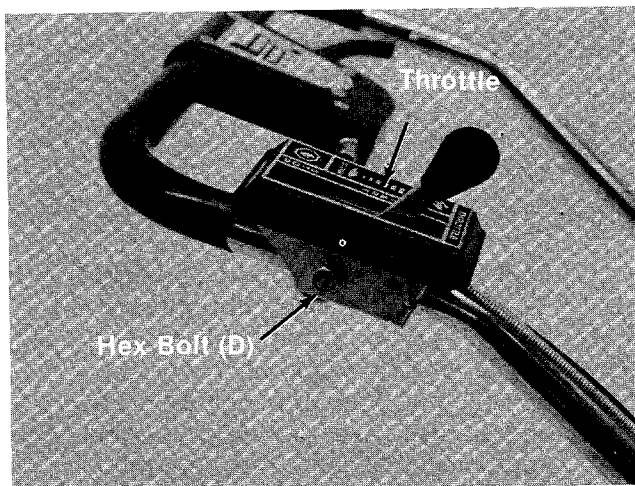

FIGURE 4.
5. Place the throttle control in position on the **right** hand side of upper handle. Secure with hex bolt (D) and hex lock nut (E) provided. See figure 4.